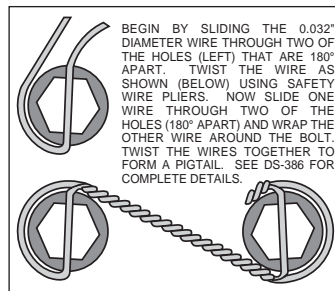

Figure 3. Safety Wire Diagram
- Orient the rotor (6) and the hat (7) as shown in Figure 1 and Photo 2. Attach rotor to hat using bolts (9) and washers (8). Using an alternating sequence, apply red *Loctite*® 271 to the threads, and torque to 155 in-lbs. Safety wire bolts using standard 0.032 inch diameter stainless steel safety wire as shown in Figure 3. Please refer to Wilwood's data sheet DS-386 (available at www.wilwood.com/Pdf/DataSheets/ds386.pdf) for complete safety wire installation instructions.